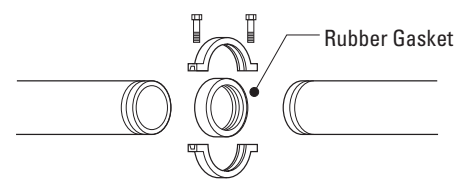

FIGURE 4 - Gasket position during assembly
- Remove bolts from coupling and place the rubber gasket completely onto one of the grooved components to be assembled. A soap or gasket lube can be used to lubricate the gasket. Adjoin the two grooved components and slide the rubber gasket back so that it is centered between the two grooved fittings. Place the clamps around the gasket and tighten bolts. Install all other components before tightening the bolts. See Figure 4.